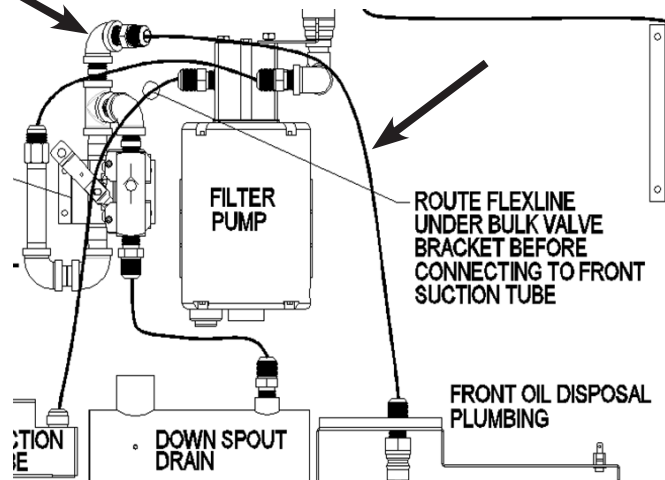

Figure 5
11. Attach the supplied 1/2" x 1-1/2" nipple to T-fitting where fitting was removed in previous step (see Figure 5). Use supplied Loctite on fittings.
12. Attach the supplied 1/2" 90 degree elbow the nipple attached in the previous step (see Figure 5). Use supplied Loctite on fittings.
13. Attach the flexline connection fitting removed in step 10 to the 90 degree elbow attached in the previous step (see Figure 5). Use supplied Loctite on fittings.
14. Attach the flexline from the new front disposal assembly to the flexline connection attached in the previous step (see Figure 5).